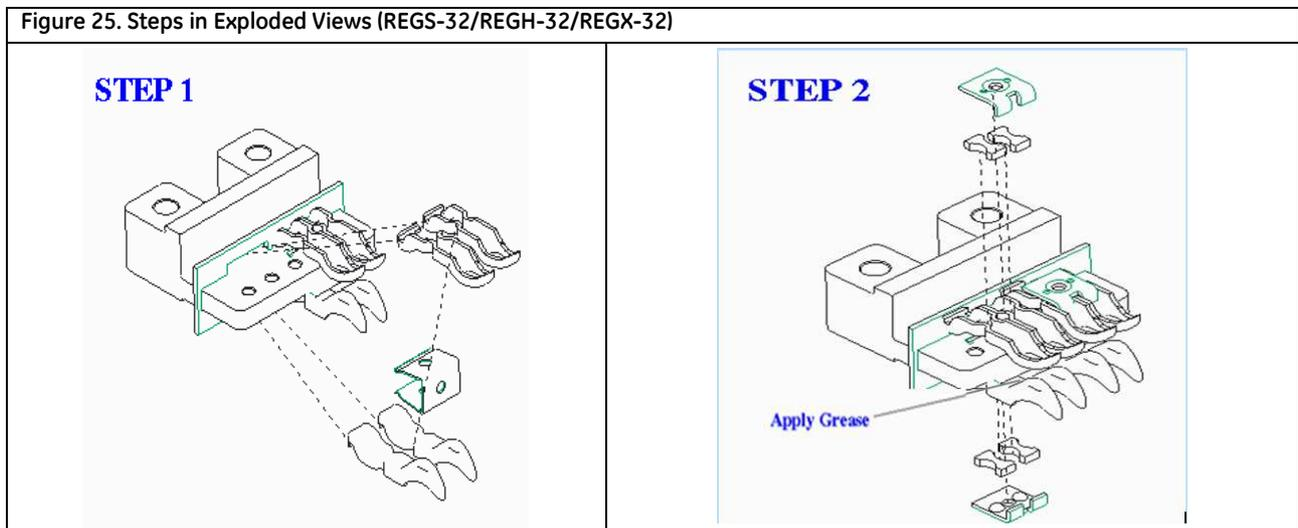

Figure 25. Steps in Exploded Views (REGS-32/REGH-32/REGX-32)
17. *Figure 25* (REGS-32/REGH-32/REGX-32) and *figure 26* (REGS-40/ REGX-40/REGS-50/REGX-50) summarizes the steps for working with the primary contacts.